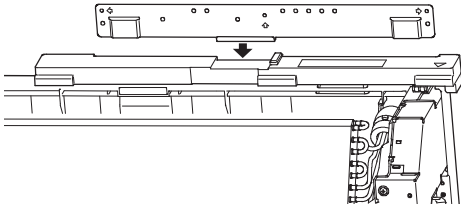

Fig. 5
3) Set the center hook of the installation plate ② on the center dented part of the spacer. (Fig. 5)